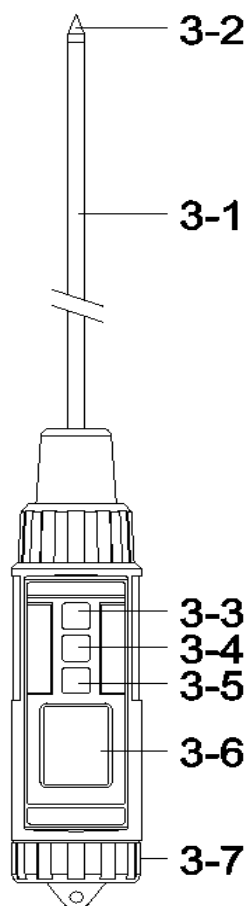
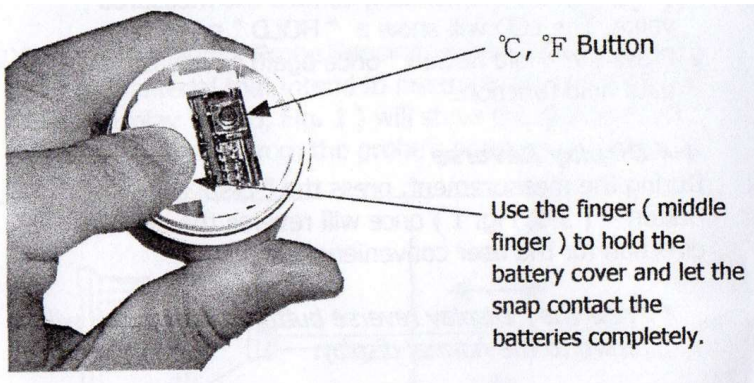

Fig. 1
Fig. 3
(3-3, Fig. 1) momentarily.
** Press the " Power Button " (3-3, Fig. 1)
- 2) Insert the " Temperature sensing head " (3-2, Fig. 1) into
- * During the measurement, press the " Hold Button " (3-4, Fig. 1) momentarily to hold the measured value. The LCD will show a " HOLD " symbol.
- 1) During the measurement, press the " Display Reverse Button " (3-5, Fig. 1) once , will reverse the display direction for the user convenience.
- 1) Refer to Fig. 3 , open the " Battery Cover " (3-7, Fig. 1) use the finger (middle finger) to fold the battery cover and let the snap contact the batteries completely.
- 2) Turn on the meter by pressing the " Power Button " (3-3, Fig. 1) momentarily.
Press the " °C, °F Button " (Fig. 3) momentarily will switch the Temp. unit " °C to °F " or " °F to °C "
- 3) After the Temp. unit is selected, then reverse the finger the battery snap and install the " Battery cover "(3-7 Fig. 1) again
- * To change the batteries, open (rotate clockwise direction) the " Battery Cover " (3-7, Fig. 1).
- * Make sure the " Battery cover " (3-7, Fig 1) is secured after changing the batteries.